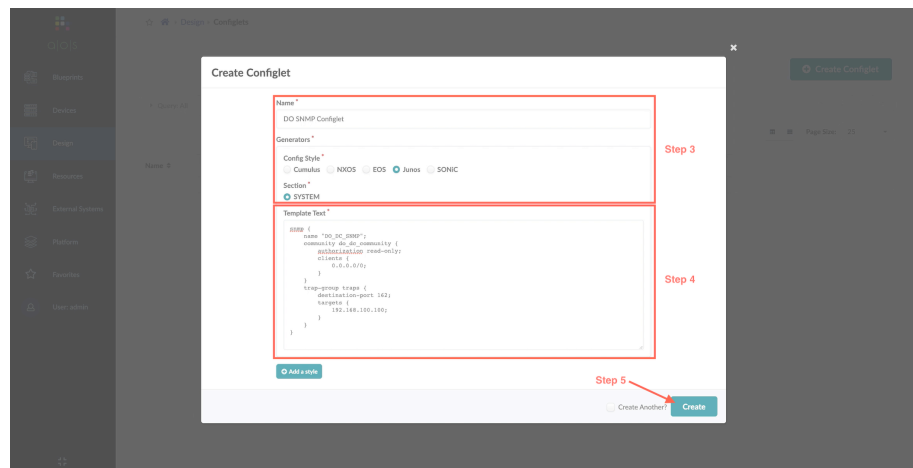

Figure 7.2 *Creating a New Configlet*
Step 3: Assign a Name, choose Junos as the Network OS type and text as the Configlet method. See Figure 7.2.